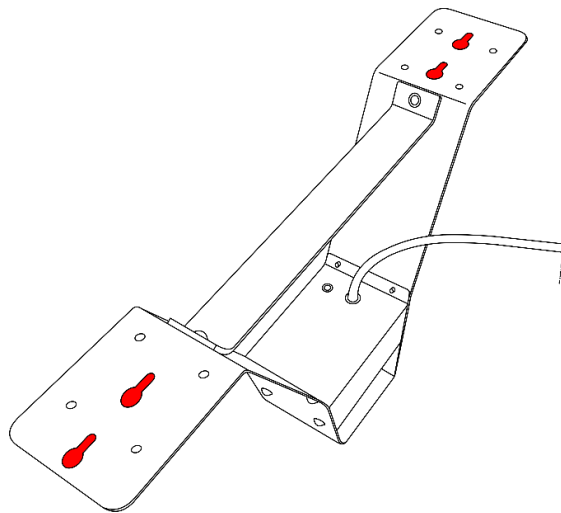

Fig. 04
03) Mark the holes with a pen or a suitable tool (see Fig. 04).